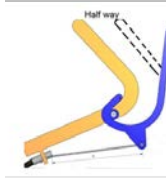

Fig 5
2. Wheel the mower backwards toward you while gradually closing the SP bail, and note the position of the bail when extra resistance to backward movement indicates that the drive clutch is just engaging. This extra resistance should occur when the SP bail is half way between open and closed (Fig 5).